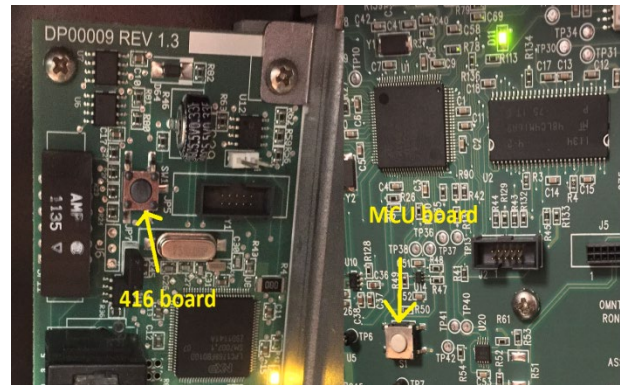

Figure 11.3
- Press the reset button on the MCU (MCU card in PROTEUS® K and X only) and 416 boards. (Figure 11.3)